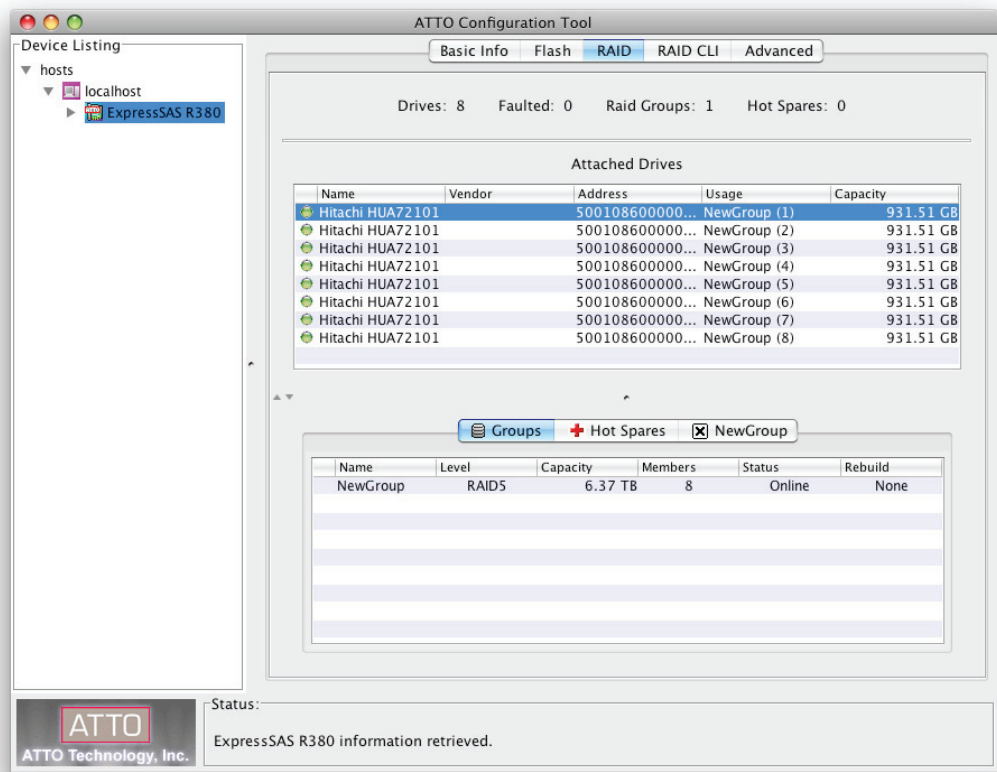

Figure 5
- The **RAID** tab provides information about attached drives, their RAID group and hot spare associations, and their operating status. See **Figure 5** on page 5.